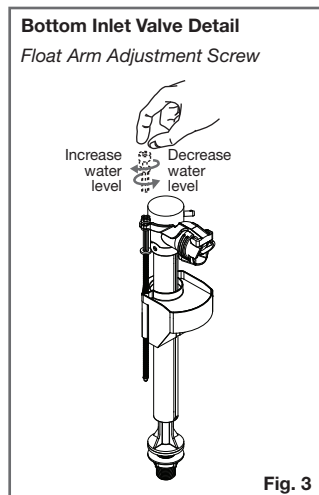

Fig. 3
- 6- Adjusting water level: Turn on water mains. Open the cistern stop valve and check the operation of the mechanisms and valve. Adjust water level to the water level mark inside the cistern by simply turning the float arm adjustment screw in a clockwise or anti clockwise direction as detailed in Fig. 3.